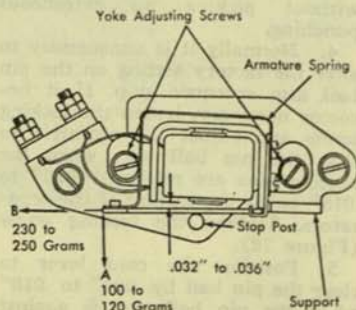

Figure 16. Feed Clutch Magnet Adjustment
1. Form the armature spring to exert a tension of 100 to 120 grams in the direction of A, and 230 to 250 grams in the direction of B, as shown in Figure 16.
2. Adjust the magnet yoke mounting screws (Figure 16) for a clearance of .032" to .036" between